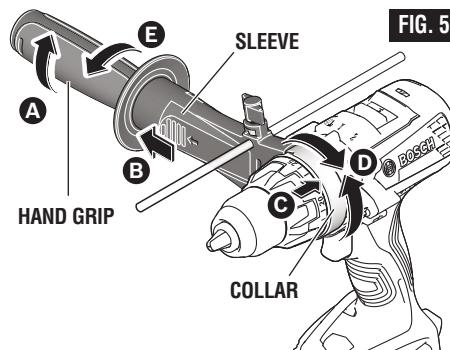

FIG. 5
To mount the auxiliary handle on the tool loosen the hand grip (A). Pull on the sleeve (B) and slide the collar on to the tool as shown (C). Swivel the handle to desired position (D). Secure the handle in place by tightening the hand grip (E). See Fig. 5.